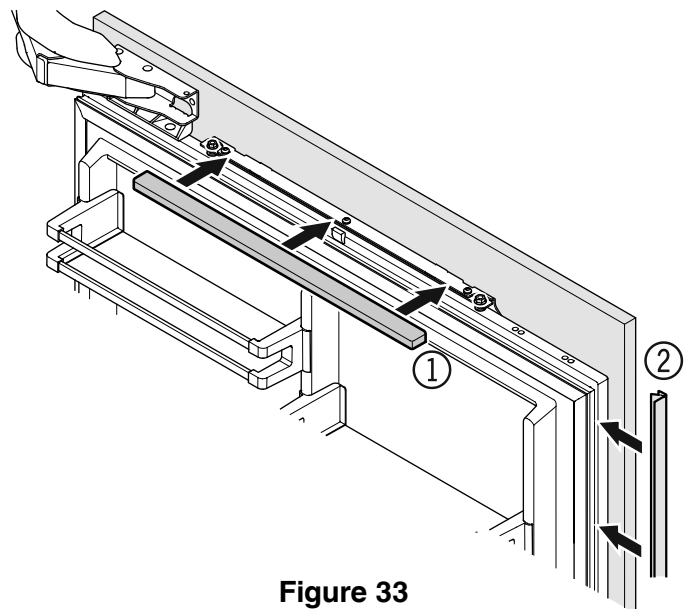

Figure 33
11. Click cover (1) into place.
Insert the cover strip provided (2) between refrigerator door and panel (**Figure 33**).